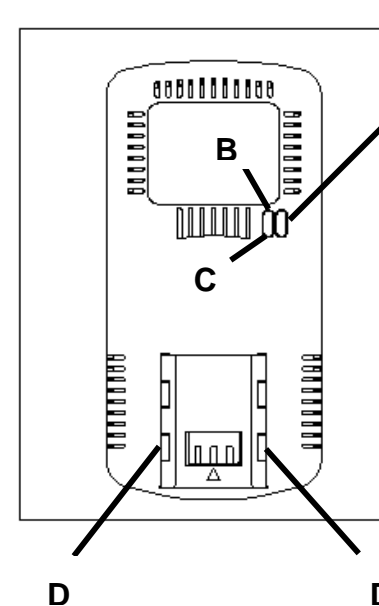

Fig 6
Make sure power circuit voltage is the same as that shown on the charger specification plate. Connect charger to power source. The orange light (A) Fig. 6, should light up. This indicates the charger is ready to begin charging.